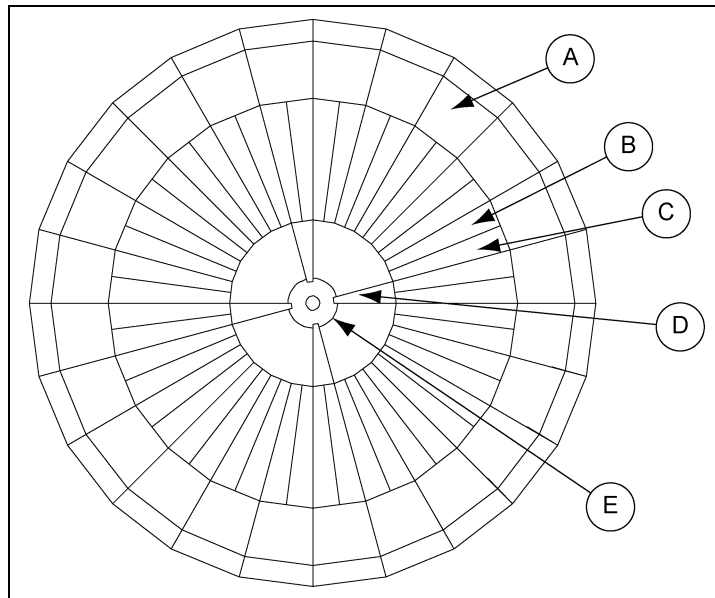

Figure 7I Hopper Panel and Discharge Collar Assembly
Step 3: Once the middle panels are installed the bottom hopper panels and discharge collar may be attached with 1/2" x 1" bolts at four (4) opposing points as shown in Figure 7I on Page 28. Complete this assembly by laying the remaining panels - moving around in one direction and lapping all sheets the same way. *Do not tighten bolts until all hopper panels are attached to each other, the compression ring, splice plates and discharge collar.*